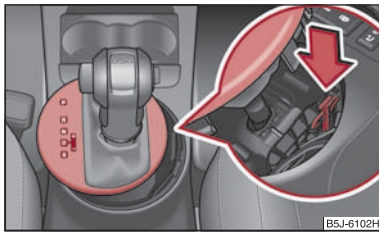

Fig. 103 Selector lever-emergency unlocking
- Use the finger to press the yellow plastic part downwards ⇒ fig. 103.